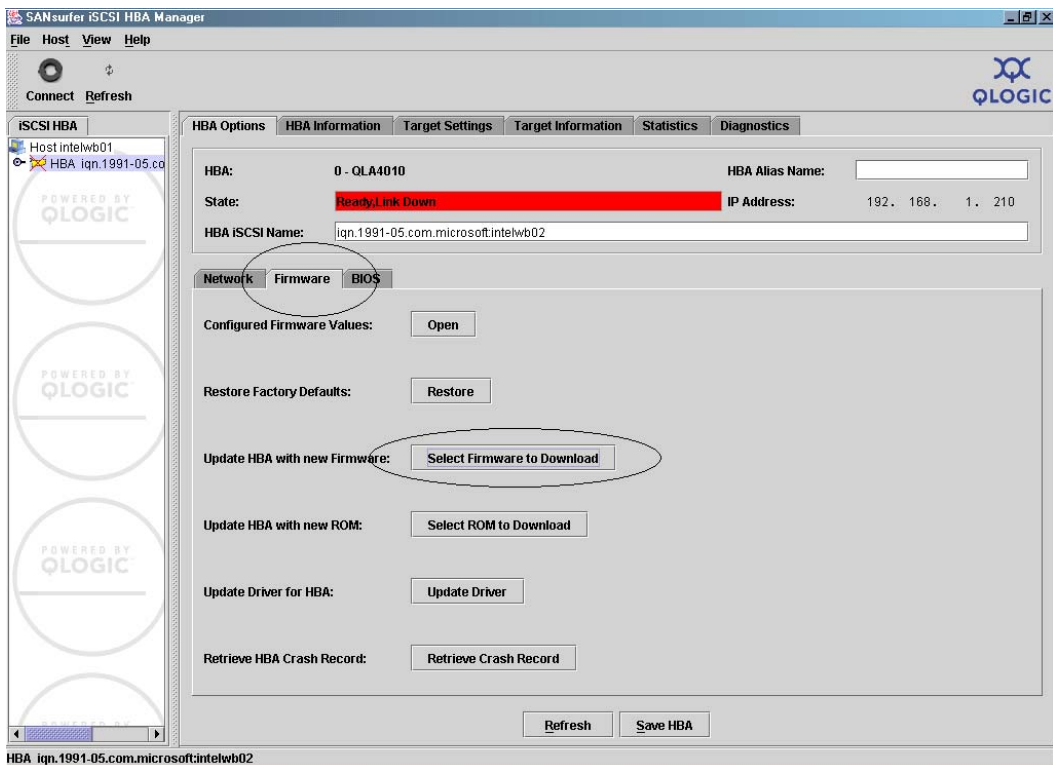

Figure 56 SANsurfer iSCSI HBA manager, HBA options, firmware tab
1. Click the **Firmware** tab on the **HBA Options** dialog, as shown in Figure 56.